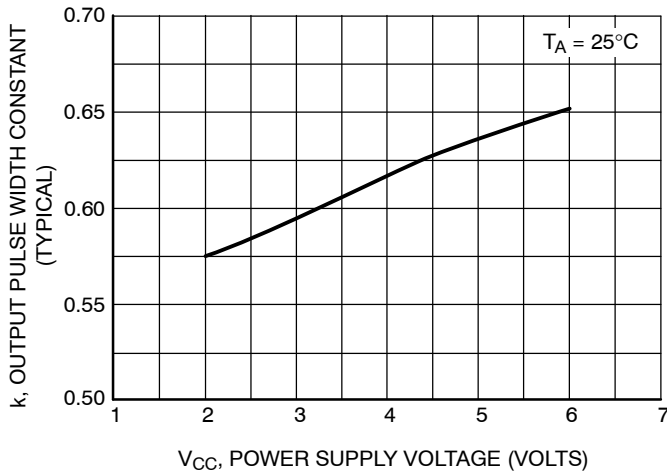

Figure 3. Typical Output Pulse Width Constant, k, versus Supply Voltage
*For output pulse widths greater than 100 μs , typically $\tau = kR_xC_x$, where the value of k may be found in Figure 3.